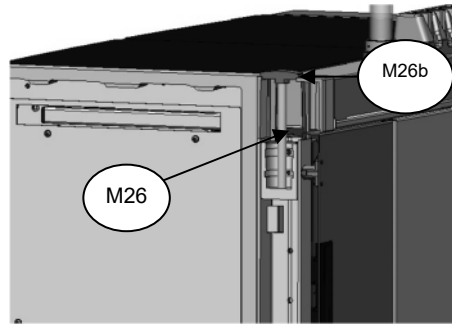

Fig. 2
3. Remove the threaded part **M26B** (put it away for possible future use) which is over the trim **M26** or **M26A** (Fig.2)